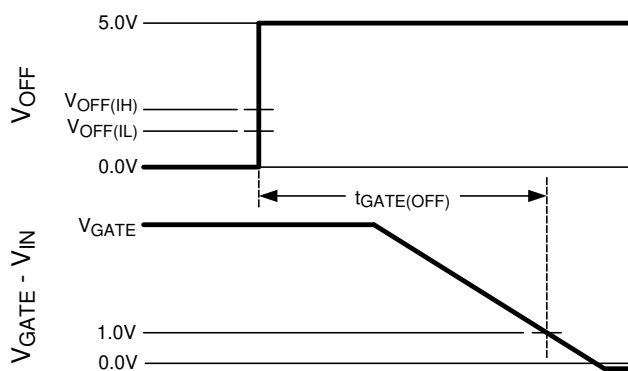

Figure 2. Gate OFF Timing for OFF Pin Low to High Transition
(3) Time from  $V_{OFF}$  voltage transition from 0 V to 5 V until GATE pin voltage falls to  $V_{IN} + 1\text{ V}$ . See Figure 2
Blocking diodes are commonly placed in series with supply inputs for the purpose of ORing redundant power sources and protecting against supply reversal. The LM5050 replaces diodes in these applications with an N-MOSFET to reduce both the voltage drop and power loss associated with a passive solution. At low input voltages, the improvement in forward voltage loss is readily appreciated where headroom is tight, as shown in Figure 2. The LM5050 operates from 5 V to 75 V and it can withstand an absolute maximum of 100 V without damage. A 12-V or 15-A ideal diode application is shown in Figure 24. Several external components are included in addition to the MOSFET, Q1. Ideal diodes, like their non-ideal counterparts, exhibit a behavior known as reverse recovery. In combination with parasitic or intentionally introduced inductances, reverse recovery spikes may be generated by an ideal diode during an reverse current shutdown. D1, D2 and R1 protect against these spikes which might otherwise exceed the LM5050 100-V survival rating. COUT also plays a role in absorbing reverse recovery energy. Spikes and protection schemes are discussed in detail in the Short Circuit Failure of an Input Supply section.